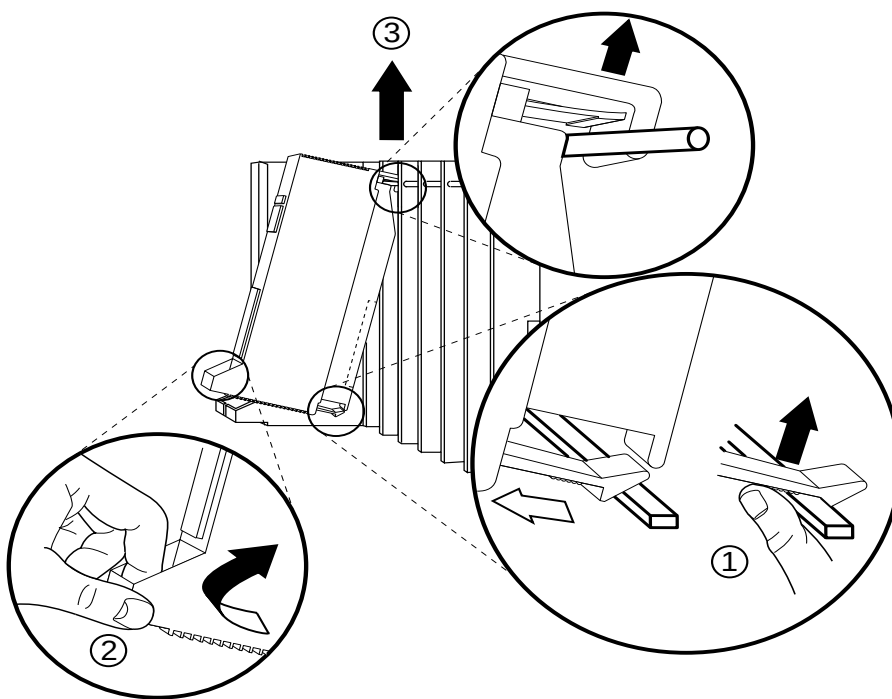

Figure 9-3. Removing a Module from the Carrier
If you are installing an expansion carrier, remove the rightmost module from the control unit and set it aside. See Figure 9-3.
- **5. Replace the processor module.** See Figure 9-3. Then go to Step 7.
- ▶ **2. Remove the power supply module to access the housing clips on the leftmost side of the carrier. See Figure 9-3.**
- ▶ 3. Remove the processor module from the carrier. See Figure 9-3.